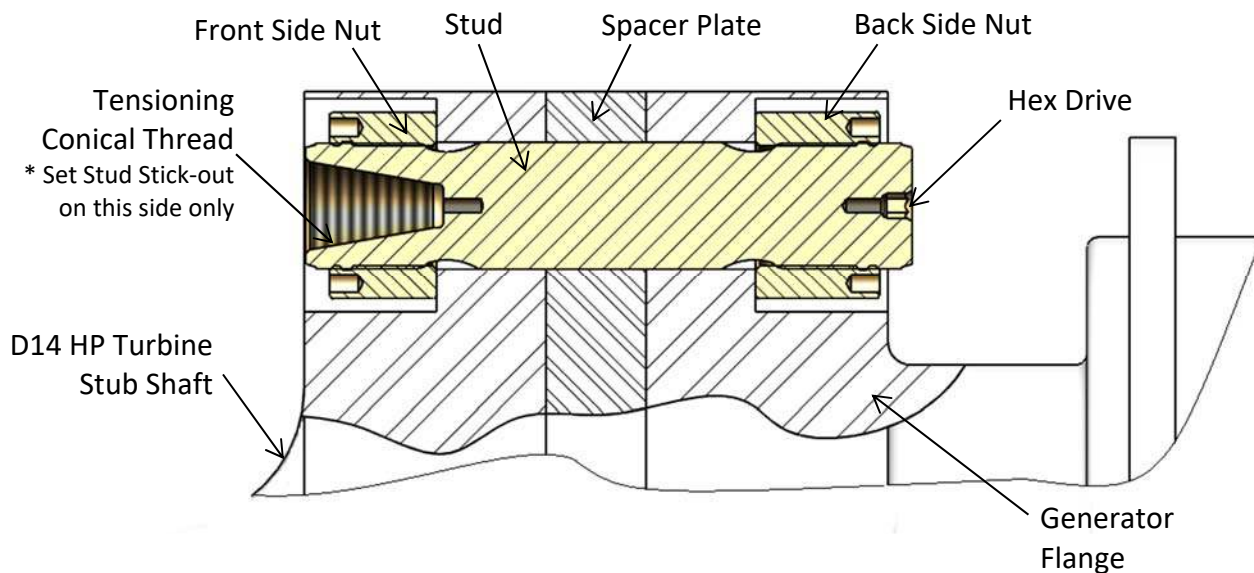

Figure 6A – Cross-section View of HP Stub Shaft to Generator Flange Connection (with spacer plate)
4. Slide the stud, and nut into the flange as shown in Figures 6A, 6B, and 6C.